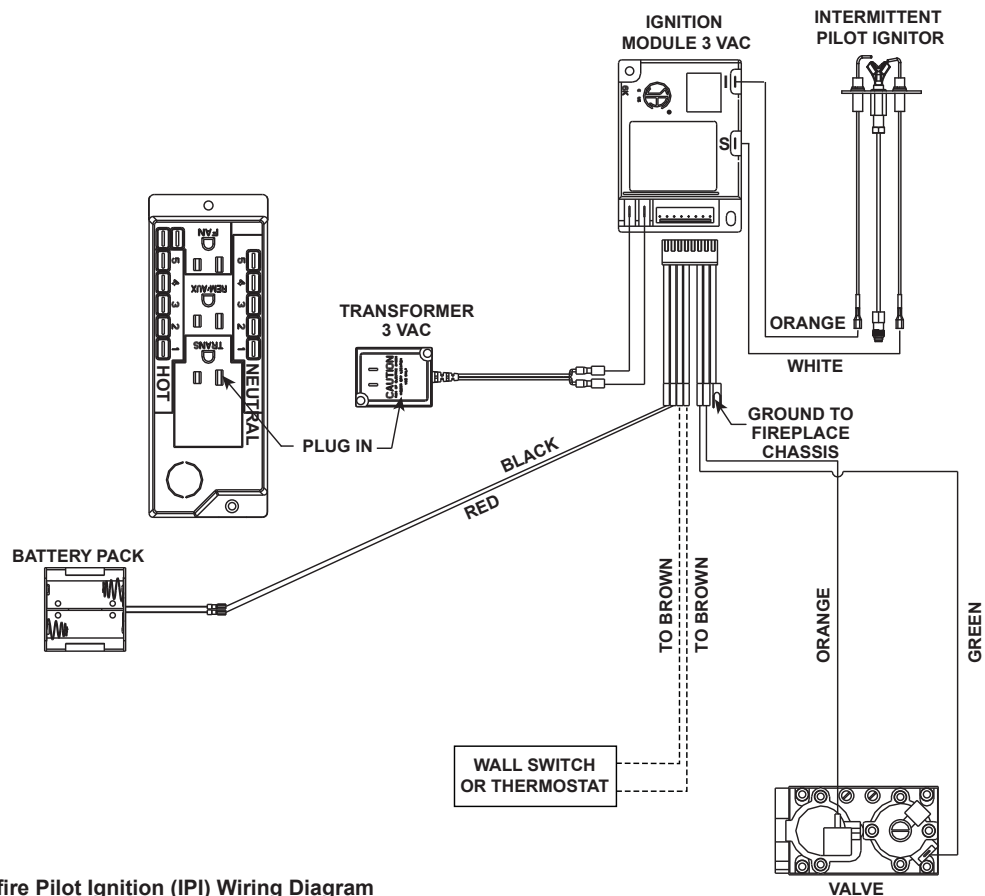

Figure 8.3 Intellifire Pilot Ignition (IPI) Wiring Diagram
- Refer to Figure 8.3 or 8.4, Intellifire Pilot Ignition (IPI) Wiring Diagram.